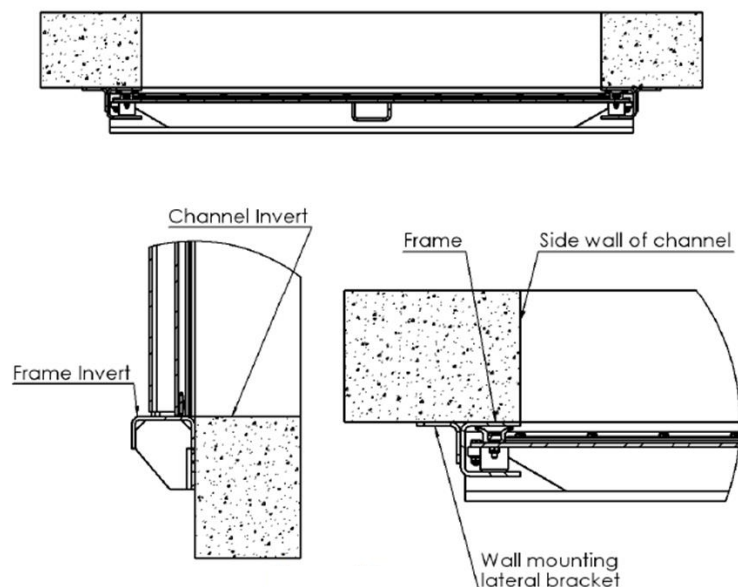

Figure 10
- Position the channel gate against the wall and line up with the opening (See Figure 10). The gate shall be in the closed position